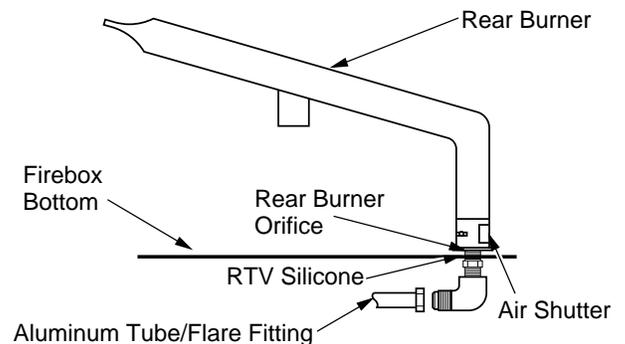
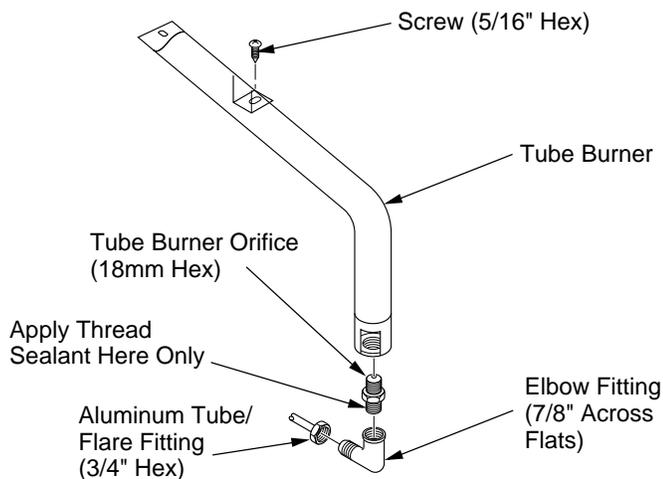

Figure 5 - Removing/Applying RTV Silicone and Locating Air Shutter
Figure 6 - Removing/Replacing Rear Burner Assembly
1. Inside the control compartment under firebox bottom, locate aluminum tube with flare fitting and brass elbow on the right side. Loosen flare fitting and disconnect aluminum tube from elbow fitting. Use a 3/4" open end wrench (see Figure 5).
2. Carefully cut away RTV silicone from the orifice where it passes through the firebox bottom (see Figure 5). Remove elbow fitting with orifice from burner inlet by turning counterclockwise. Use a 7/8" open end wrench (see Figure 6, page 3).
3. Remove LP orifice from elbow. Apply a light amount of propane/LP resistant sealant to short threaded end of NG orifice (199) supplied in kit. Thread NG orifice into elbow.
4. Apply a light amount of propane/LP resistant sealant to long threaded end of orifice (see Figure 5). Thread elbow fitting with orifice into burner inlet and tighten by turning clockwise. Use a 7/8" open end wrench. Make sure flare end of elbow faces left.
5. Locate air shutter at end of tube burner (see Figure 5, page 2). Loosen screw and adjust air shutter to 3/16" open position. Retighten screw.
1. Apply RTV silicone to orifice where it passes through the firebox bottom (see Figure 5, page 2).